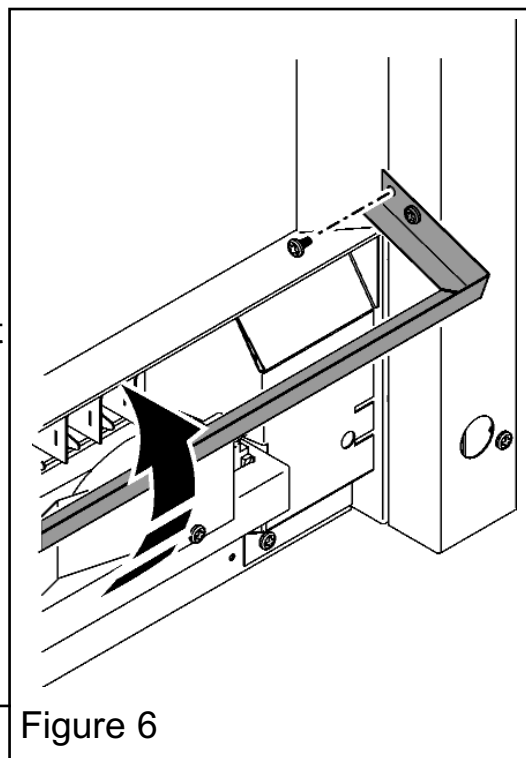

Figure 6
1. The front spacer has a fuel support bracket secured with two screws. Rotate the bracket upward and align the two holes in the bracket with those in the spacer frame. Secure in place with two No.8 x 3/8 screws (See figure 6)